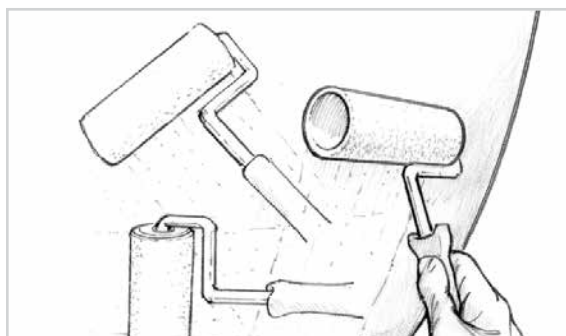

Figure 13-1 Apply a thin, even film of epoxy with a foam roller.
3. Apply the epoxy to the hull following the coating procedure in Section 15.1.1. Spread the epoxy out to a thin even film with the thin foam roller (Figure 13-1). Continue applying the epoxy, overlapping small coverage areas until the batch is used up.